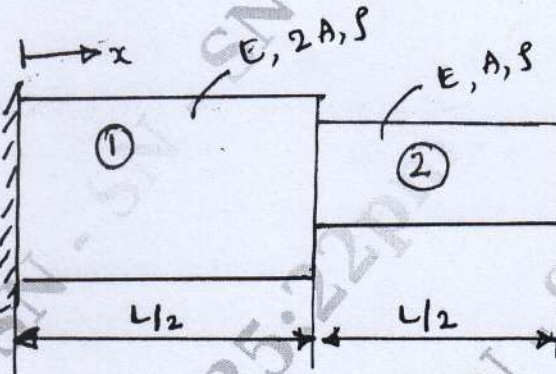

Fig Q10
- 10 Find Eigen values and Eigen vectors for stepped bar when it is subjected to axial vibration with fixed free end condition as shown in Fig Q10.